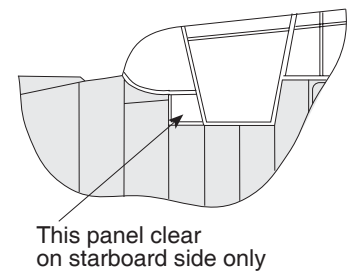

Figure 6
- h) The vacuform greenhouse should be carefully trimmed and glued in place. Note that for the short greenhouse the small panel on the starboard side **ONLY** is clear (see **Figure 6**). Use the kit windscreen (part 67) and sliding pilot windows (parts 68L and R). The radio antenna (part 50) should fit the vacuform section with a little trimming on the bottom.